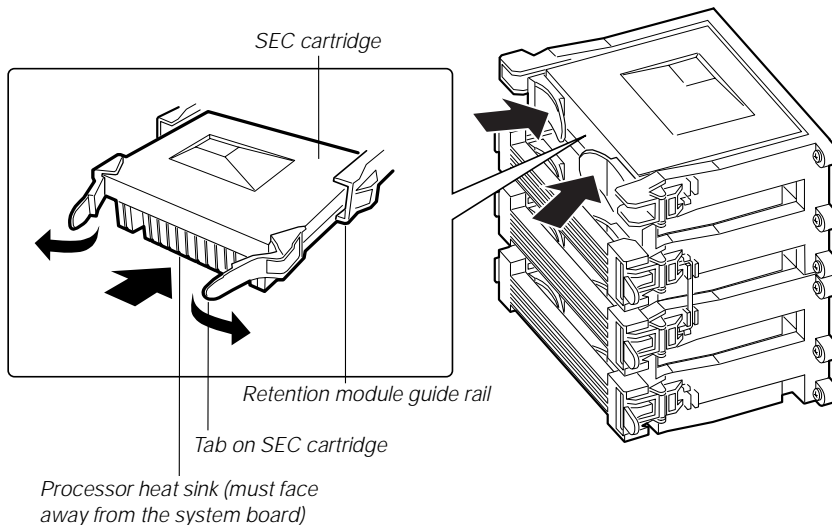

Figure 10: Installing a Processor
- With the tabs at the top of the S.E.C. cartridge completely open (pulled outward, away from the center of the cartridge, Figure 10), slide the cartridge into the guide rails of the retention module (Figure 10). When done properly, the triangular ends of the tabs (with two round pegs on each) fit into the entrance to the guide rails.
13. When the cartridge meets resistance, push the two tabs toward each other (Figure 10) until the processor is fully seated.